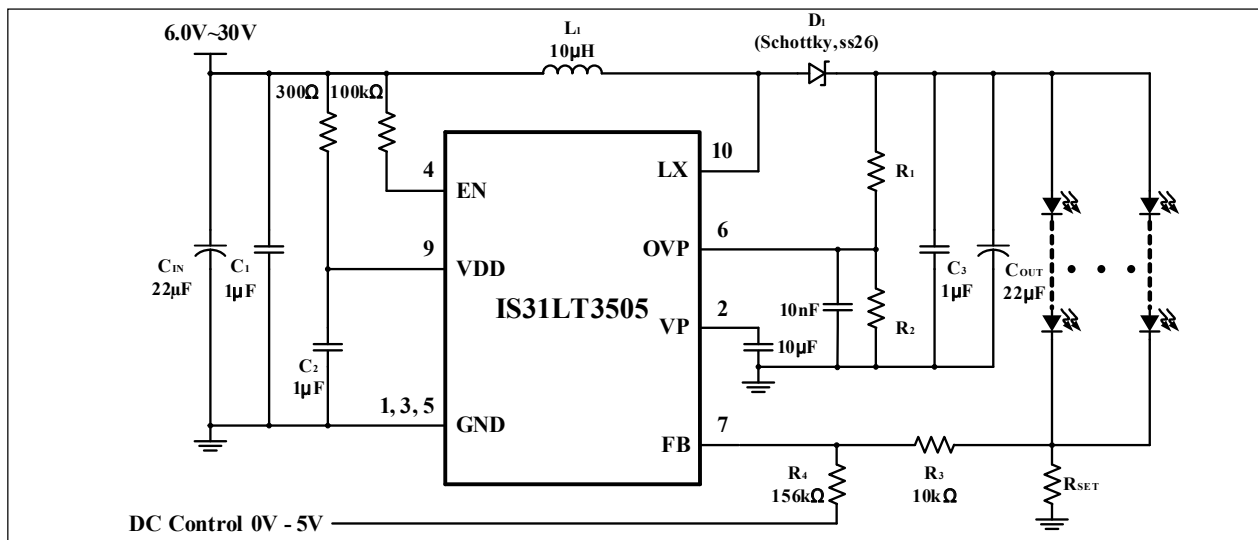

Figure 14 Application Circuit (Constant Current to Drive White LEDs With DC Dimming)
IS31LT3505 can modulate the brightness of LEDs by controlling the DC voltage or the PWM duty cycle (Figure 14,15).
Figure 14 shows that the intensity of the LEDs can be adjusted by the DC voltage. As the DC voltage increases, the current pass through R3 increasingly and the voltage drop on R3 increases, i.e. the LED current decreases. The LED current can be calculated by the Formula (2). The internal feedback voltage V_{FB} is 0.3V (Typ.).
When the DC voltage is from 0V to 5V, the value of R3 should be 10kΩ. Refer to Figure 14.